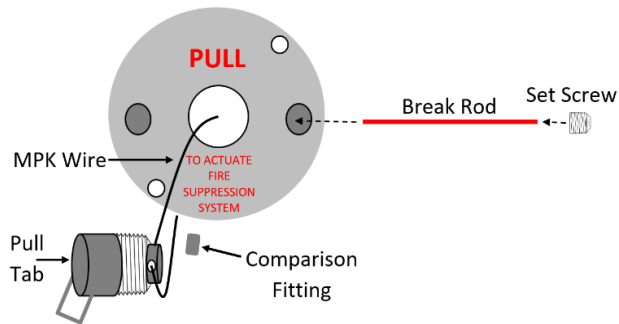

Figure 14.5
- Do not allow slack wire rope cable to collect above the hood. (See Figure 14.5 MPK Front Plate)